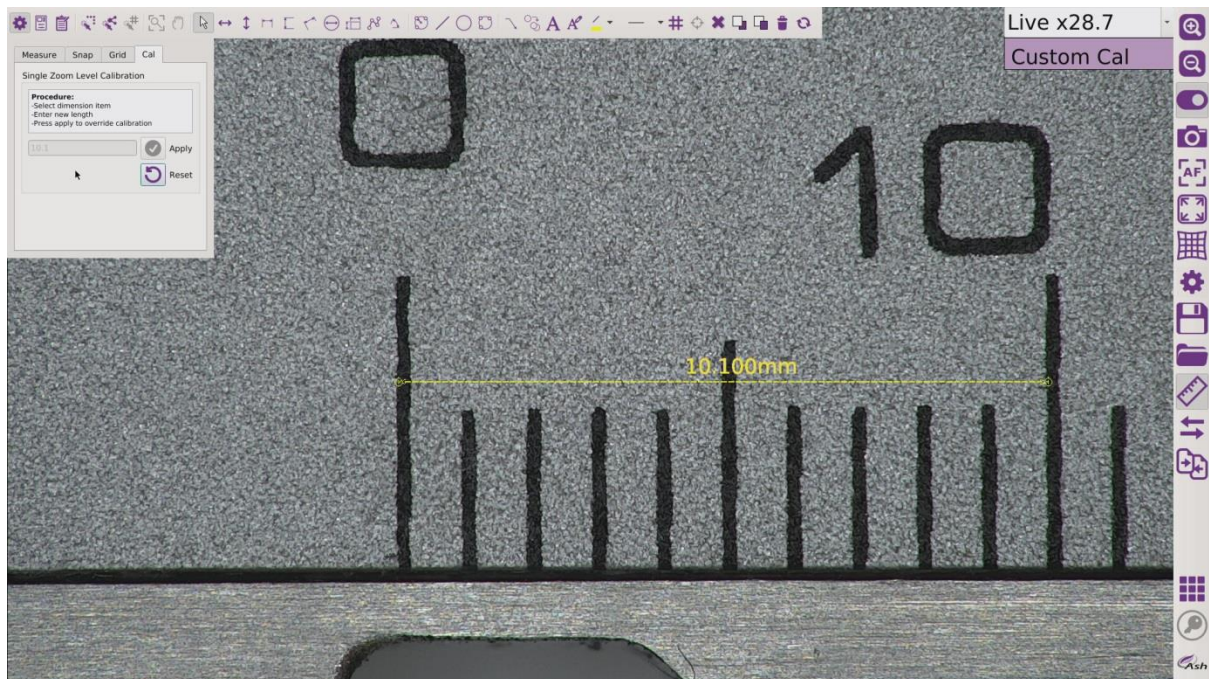

Fig. 26
The single zoom calibration feature (Fig. 26) can be used to temporarily override the AshCal feature should the requirement arise e.g. using a non-system calibrated lens or making measurements at lower magnifications.
- Go to Single Zoom Level Calibration (Measurement Settings see fig. 26)